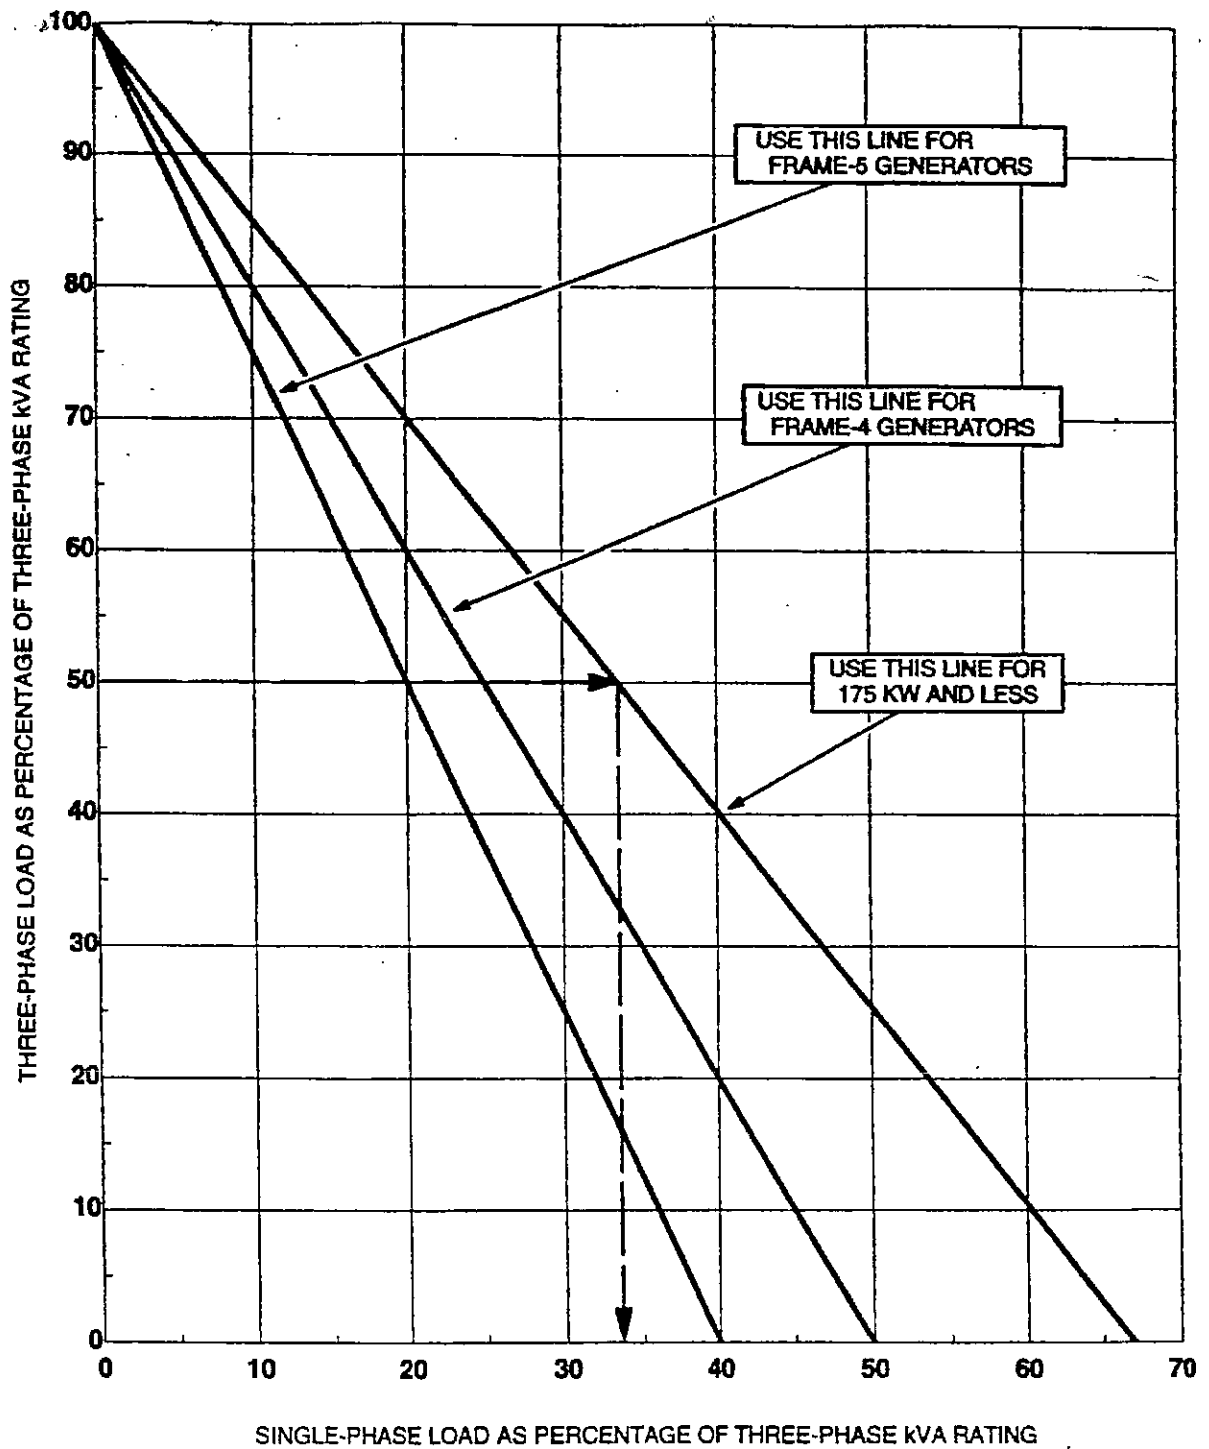

FIGURE 41. ALLOWABLE UNBALANCED SINGLE-PHASE LOAD
Single-phase loads should be distributed as evenly as possible between the three phases of a three-phase generator set in order to fully utilize the rated capacity (kVA and kW) of the set and to limit voltage unbalance. Figure 41 can be used to determine the maximum permissible percentage of unbalanced single-phase load, as illustrated by the example calculation.
Generally, the larger the generator set, the lower the percentage of single-phase power that can be taken. Figure 41 includes single-phase percentage lines for **TPS** intermediate-size Frame-4 and Frame-5 generators. Confirm the frame size by referring to the applicable Alternator Data Sheet referenced by the generator set Specification Sheet. For generator sets rated more than 500kW, load unbalance should not exceed 10 percent.
2. Find the percentage of allowable single-phase load, as shown by the arrows in Figure 41. In this case, it is approximately 34 percent of the three-phase rating.